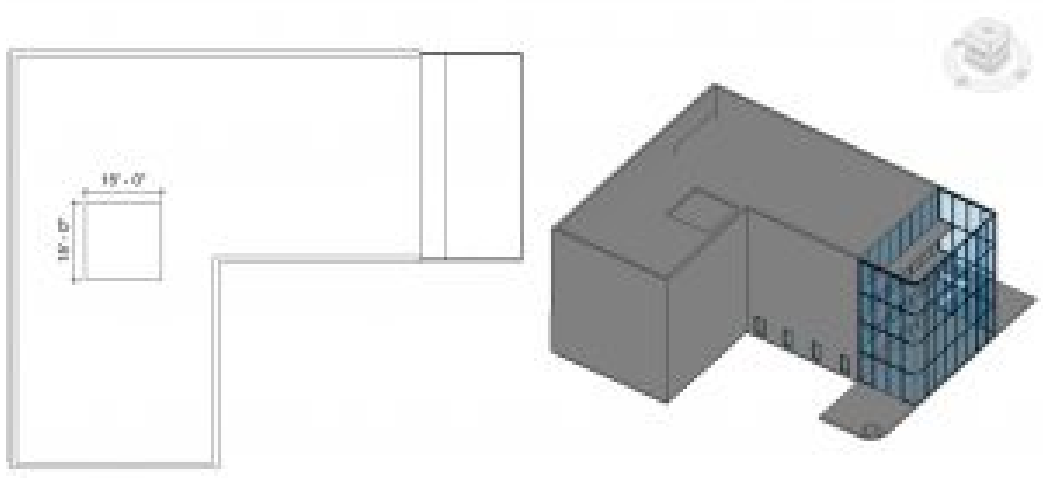

Figure 3.14 Opening by Face shown in plan view and 3D view
4. Draw a 15ft X 15ft square as shown in Figure 3.14
5. Use the move tool  to center the opening as shown in Figure 3.14